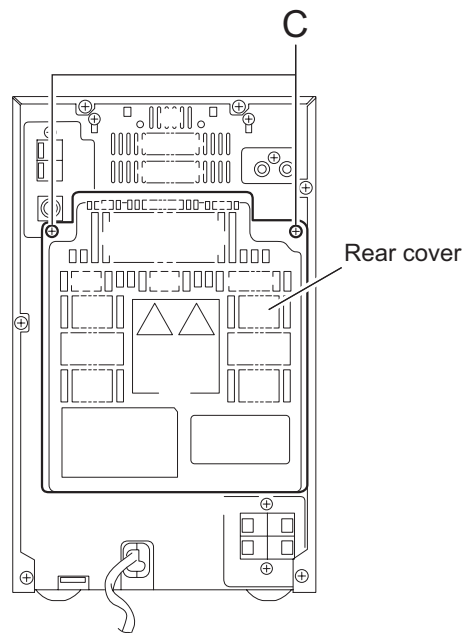

Fig.4
2.1.2 Removing the rear cover (See Fig.4)